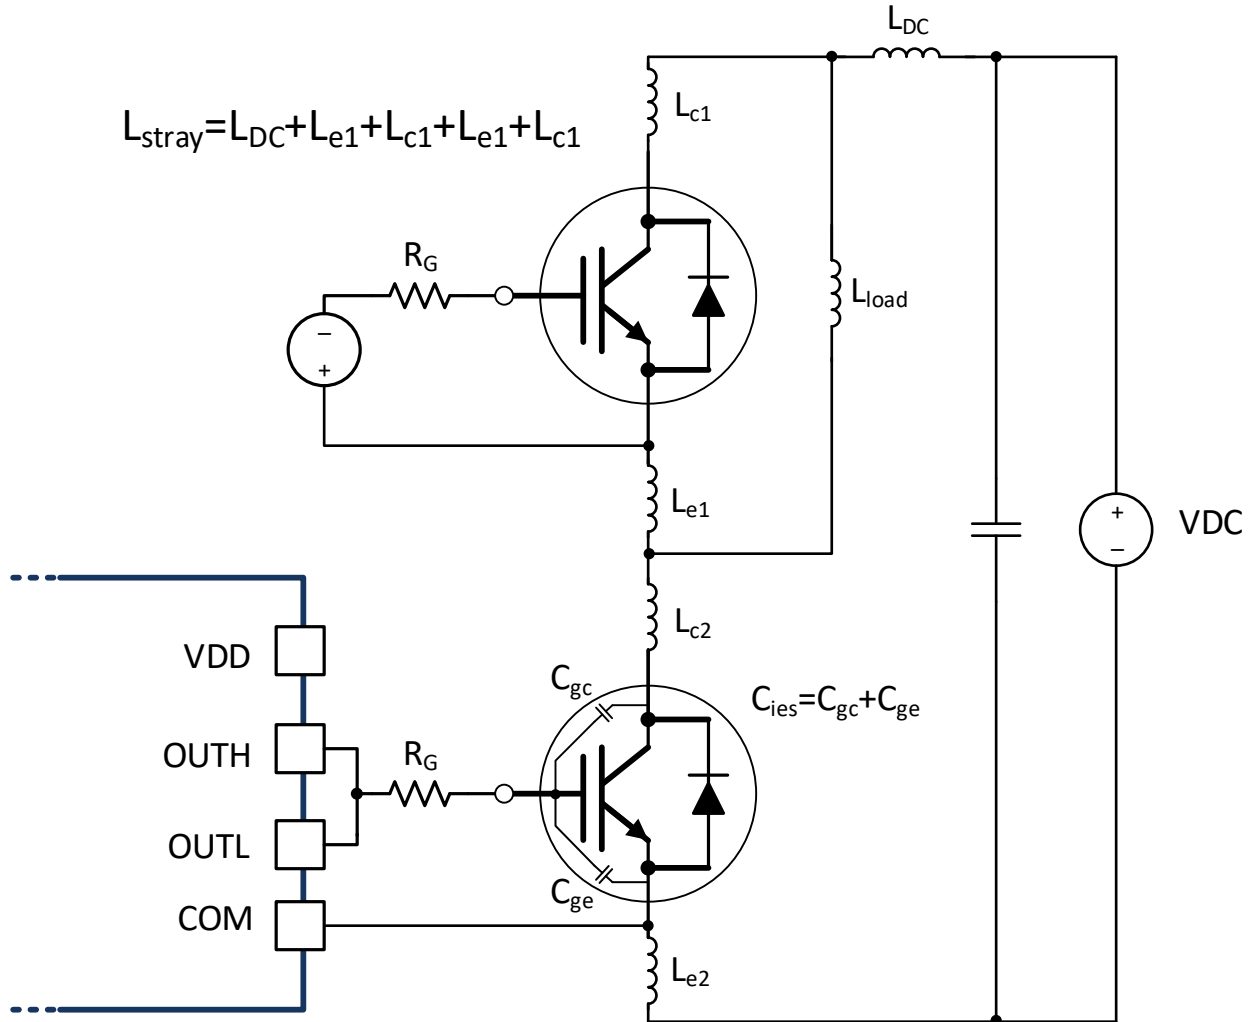

図 8-6. Stray Parasitic Inductance of IGBTs in a Half-Bridge Configuration
- L_{stray} is the stray inductance in the power switching loop, as shown in 図 8-6.